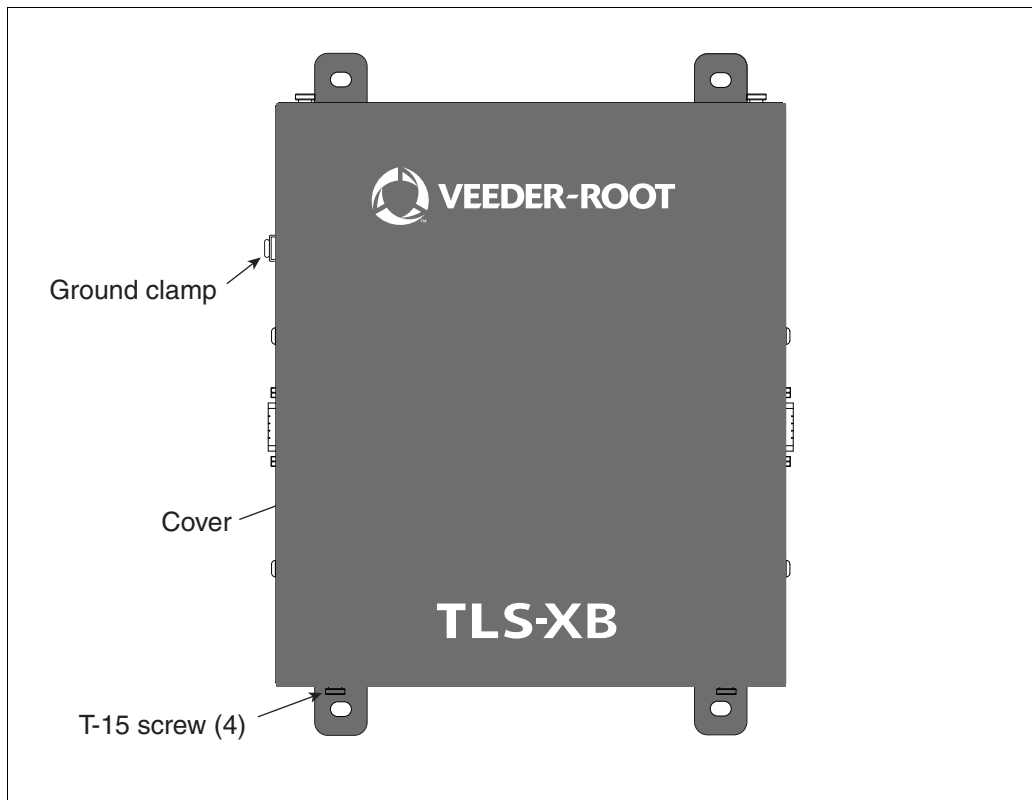

Figure 4. Removing TLS-XB Cover
1. Using a T-15 Torx driver, remove the top and bottom screws securing cover and lift cover off enclosure (see Figure 4).